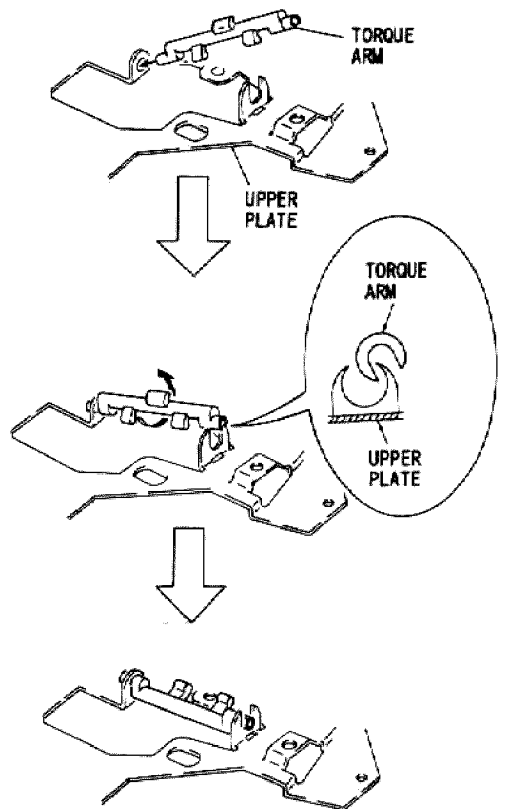

Fig. 6-29
- 2) Fit the torque arm to the upper plate as shown in Fig. 6-29.